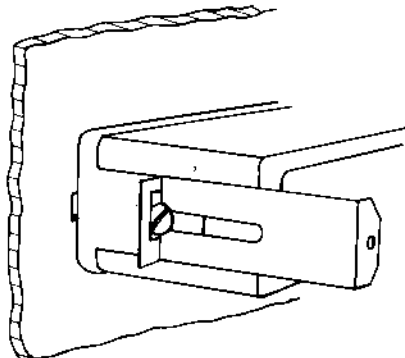

FIG. 5.
5. Working from behind the bulkhead, slide the two metal brackets over the heads of the brass screws and slide them all the way up to the inside of the bulkhead. (Fig. 5).